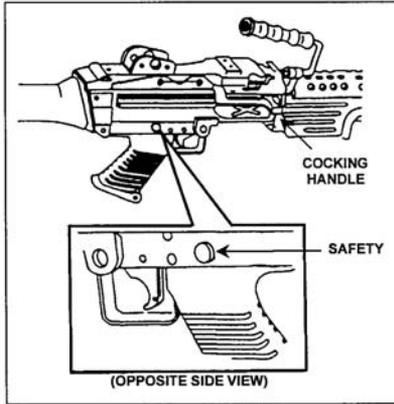

Figure 071-312-4027-1. M249 locking handle and safety
2. Push the cocking handle forward until you hear it click into the locked position (figure 071-312-4027-1).
3. Push the safety from left to right for safe mode (the red band will not show) (figure 071-312-4027-1).